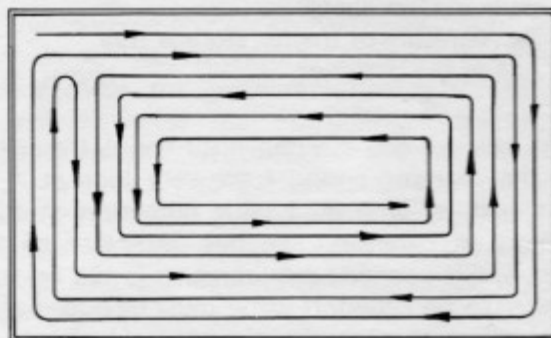

Figure 13. Mowing Pattern
- Turn to the right when beginning to mow large open areas to discharge clippings away from borders such as sidewalks, fences, driveways, etc. After making two or three passes this way, mow in the opposite direction turning to the left to finish. See Figure 13.